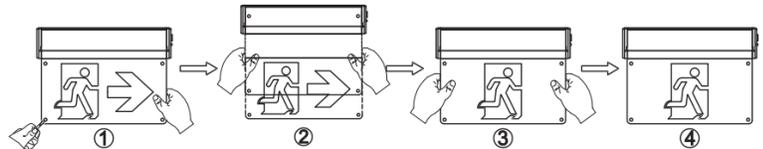

Fig. 5
1. Use a flat head screw driver to remove the nylon insert plugs from each corner of the running man sign (Fig. 5).